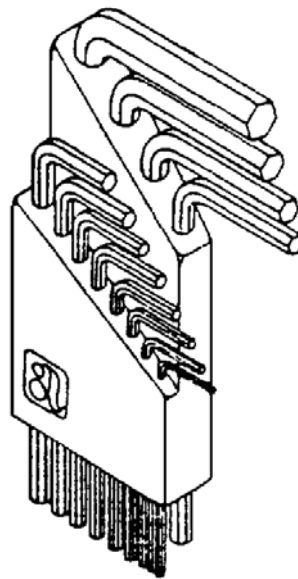

Figure 6-11. Hex wrench set with holder.
k. **Hex Wrench Set With Holder.** This complete hex wrench set includes all hex wrenches that might be required to service the A-DEC equipment. The plastic holder keeps the hex wrenches together and makes them easy to identify. Refer to figure 6-11.